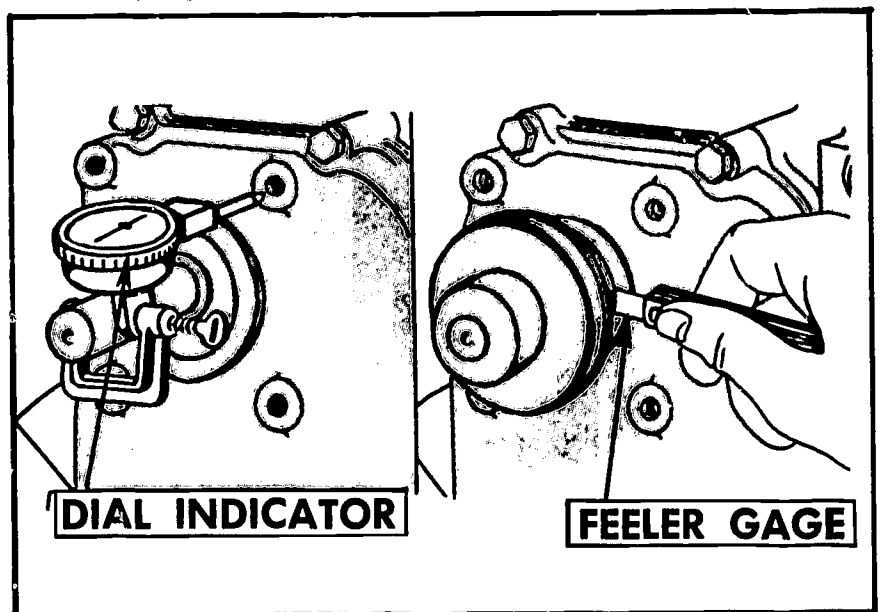

FIGURE 328. Checking the crankshaft endplay with a dial indicator.
15. Check crankshaft endplay, if it is adjustable (Figure 328).